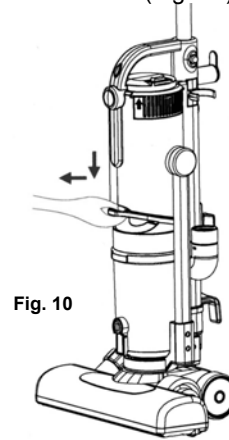

Fig. 10
1. To remove the dust cup container, press down on the dust cup release and pull the dust cup container out from the vacuum. (Fig. 10)